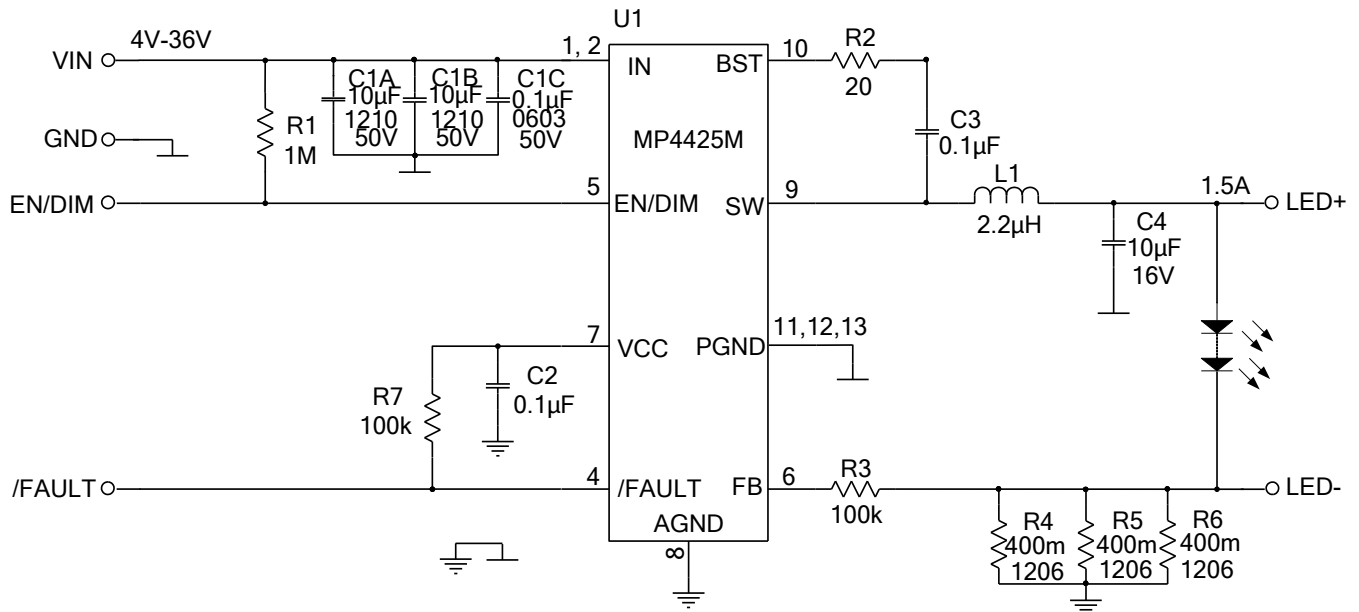

Figure 8:  $I_{O}=1.5A$  Application Circuit
8) The recommended layout is based on Figure 8.